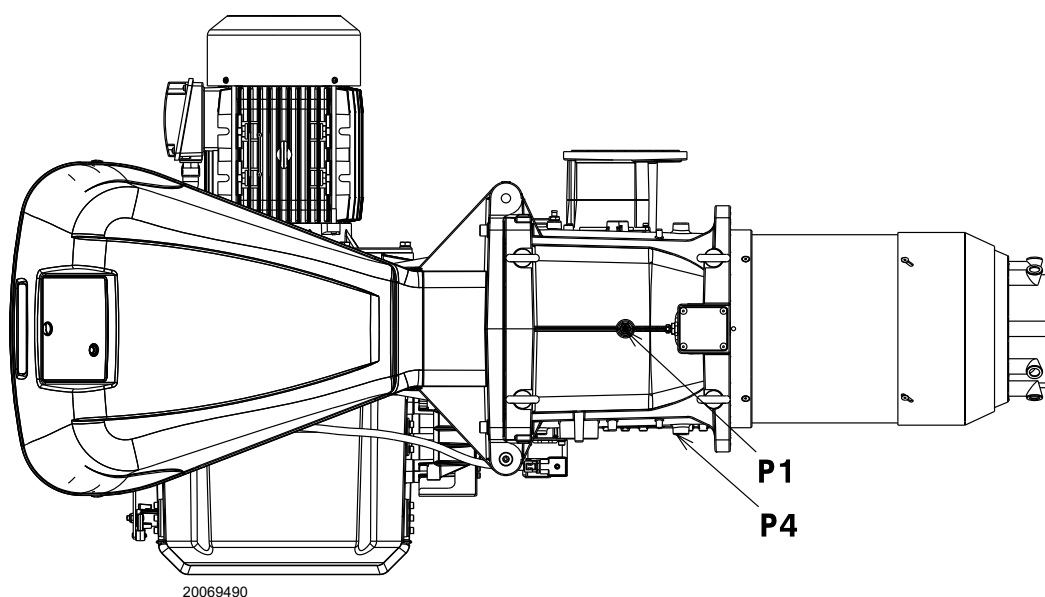

Fig. 22
Gas pressure measured at the test point P1)(Fig. 22), with:
- subtract the combustion chamber pressure from the gas pressure measured at test point P1)(Fig. 22).
Gas pressure at test point P1)(Fig. 22) = 25.0 mbar
To calculate the required gas pressure at test point P1)(Fig. 22), set the MAX output required from the burner operation:
- Read, on the right (column 1), the pressure at the test point P1)(Fig. 22).
Pressure required at test point P1)(Fig. 22).